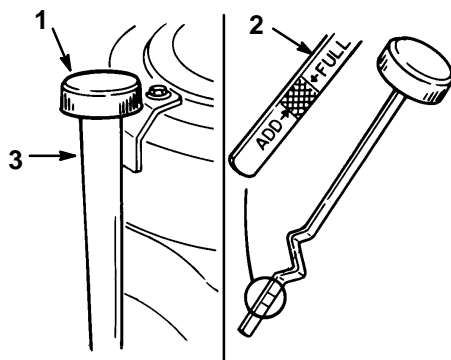

Figure 23
2. Clean around the oil dipstick (Fig. 23) so dirt cannot fall into the filler hole and damage the engine.
3. Unscrew the oil dipstick and wipe the metal end clean (Fig. 23).
4. Slide the oil dipstick fully into the filler tube, do not thread onto tube (Fig. 23). Pull the dipstick out and look at the metal end. If oil level is low, slowly pour only enough oil into the filler tube to raise the level to the “FULL” mark.
5. Slowly pour approximately 80% of the specified amount of oil specified, page 25, into the filler tube (Fig. 23). Now check the oil level; refer to Checking Oil Level, page 26. Slowly add additional oil to bring to “FULL” mark on dipstick.